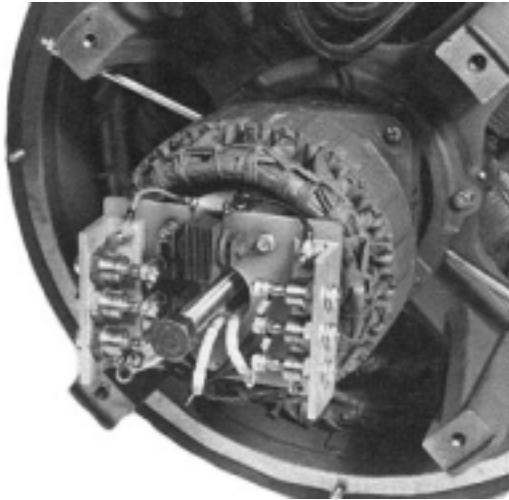

Figure 6-12
3. Use a six inch, 3/4-16NF, cap screw for a puller. (See section 9.) The hole that the mounting bolt goes through is threaded. Screw the pull bolt into the hole and it will push against the end of the shaft. (Figure 6-12.)